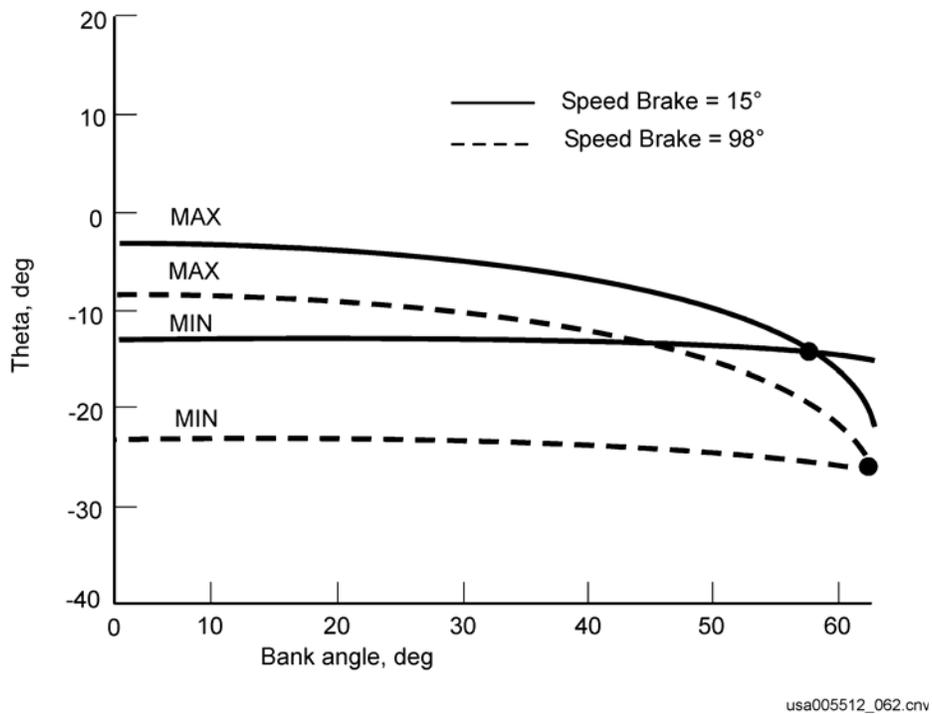

Figure 3-21. Theta limits versus roll angle
- b. As you increase bank angle, nose low and nose high limits converge. They will converge at a bank angle of 57° (see Figure 3-21).
- c. Speedbrake changes your drag. As you increase drag, the steady state flight path angle decreases (more nose low). Open the speedbrake and the theta limits go down (more nose low). Close the speedbrake and the theta limits go up (see Figure 3-21).